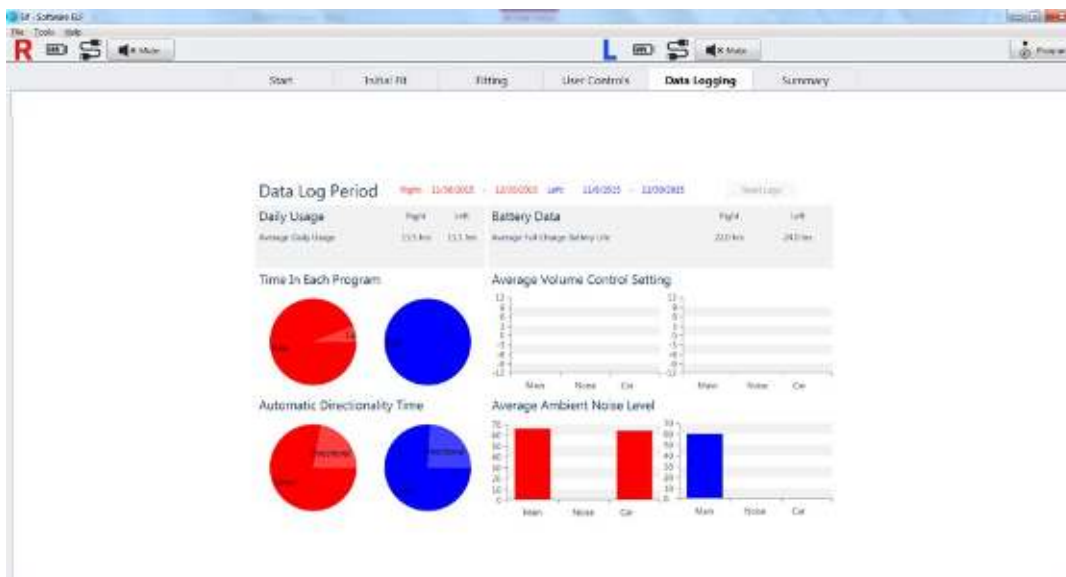

Figure 15. Data Logging screen
- **Data Logging:** View patient usage data (Figure 15).